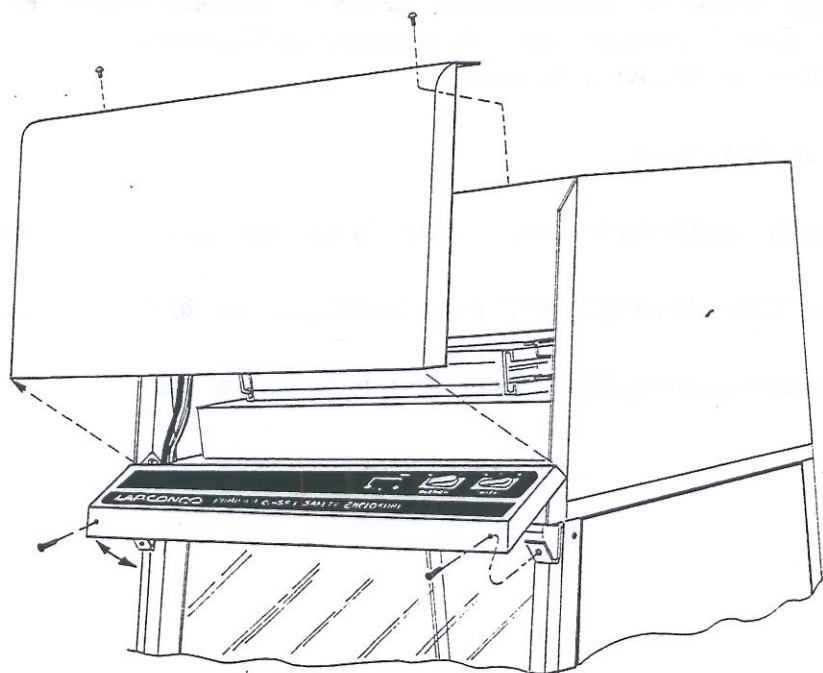

Figure 9
- (1) Locate the front dress panel, just above the control panel. Remove the two screws located on the top of the panel. Remove the panel by pulling it slightly upward and out, as shown in Figure 9.
- (1) Remove the front dress panel as described above.
- (2) Locate the control panel on the front of the cabinet, which has the filter indicator lights and switches. Remove the screws located on each lower end of the panel. Swing the panel upward for access to the fluorescent lamp as shown in Figure 9.
- (3) Remove the fluorescent lamp by rotating the lamp and pulling it straight out of its sockets.
- (4) Install the new lamp by reversing the removal procedure.